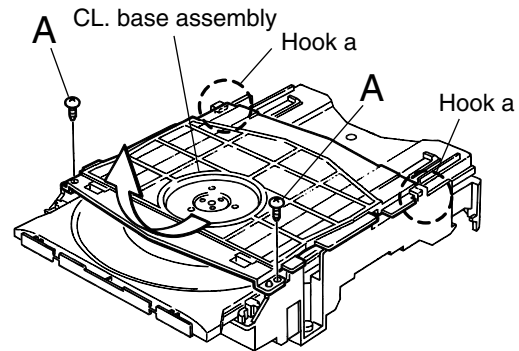

Fig. 1
■ Removing the CL. Base Assembly and Tray (Refer to Figs. 1 to 5.)
■ Removing the side bracket (L) and (R) / load board (See Fig.1 to 4)
3. Remove the spring (1) attaching the trig lever.